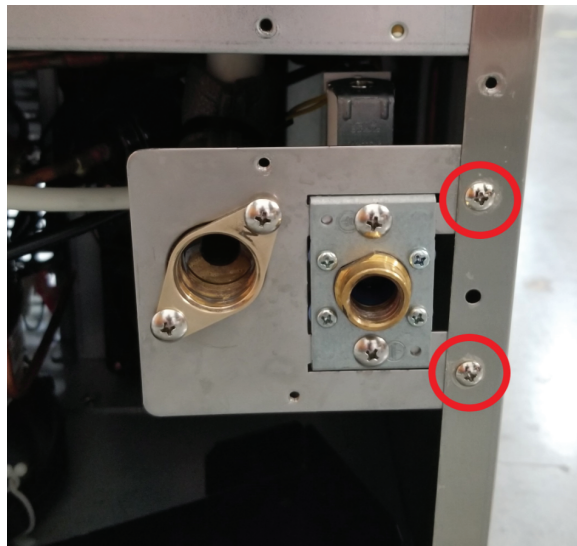

Figure 8
11. Reattach the water supply and drain bracket to the cabinet (Figure 8).